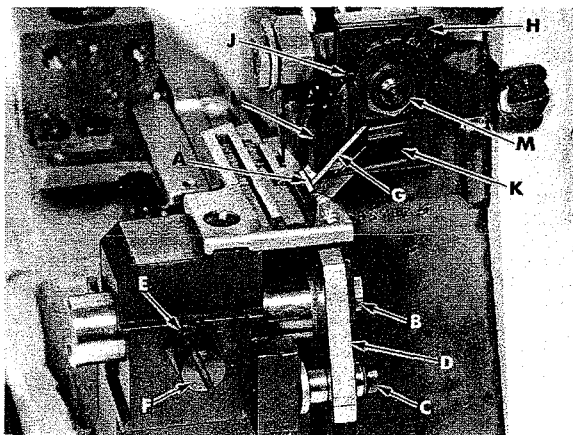

Fig. 15
Cutting edge of knife (A, Fig. 15) must be even and parallel with top surface of throat plate. Examine sewn sample for specified seam width and appearance.
With upper knife (G, Fig. 15) at lowest position of travel and while holding upper knife firmly against lower knife, adjust knife holder (H) left to right, to position front tip of upper knife cutting edge 1/64 - 1/32 inch (.4 - .8mm) below cutting edge of lower knife, then tighten screw (J).